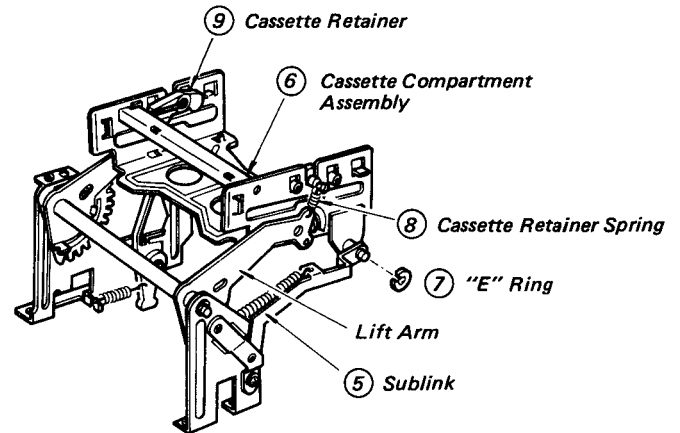
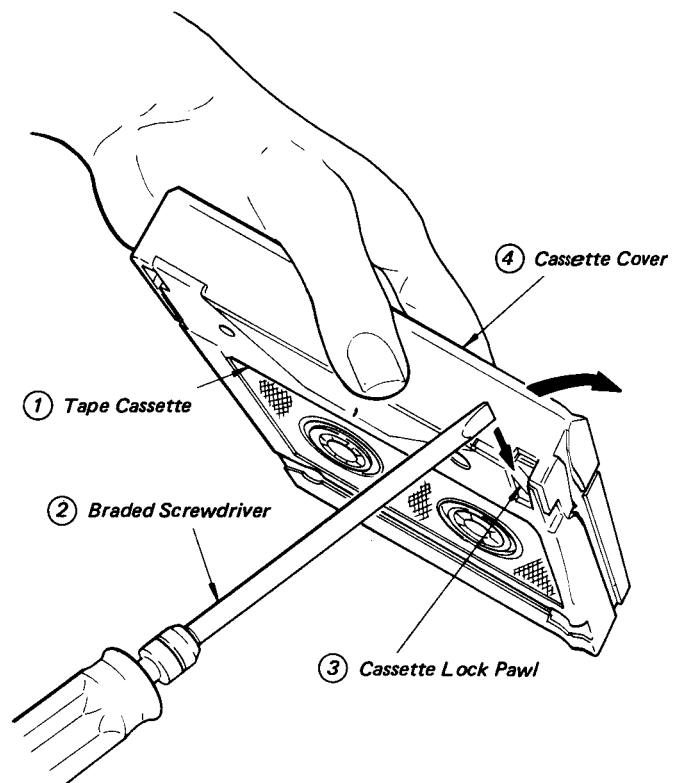

Fig. 5-5 Cassette Compartment Removal
Fig. 5-6 Cassette Lid Opening
5. Operating without Cassette Compartment Assembly (see Figs. 5-5, 5-6)
3. Remove the "E" ring (E-3) (7) and the sublink (5) on each side of the cassette compartment (6). cassette compartment (6). (see Fig. 5-5)
4. Unhook the cassette retainer spring (8) from the cassette retainer (9) on each side of the cassette compartment (6).
5. Take out the cassette compartment (6) for removal.
6. In turn, holding the cassette (1) by your left hand, disengage the cassette lock pawl (3) using a bladed screw driver (2). (see Fig. 5-6)
7. Open the cassette cover (4) in the arrow direction (↗).
8. Leaving the cassette cover (4) open, place the cassette in position on the reel tables and cassette reference post.